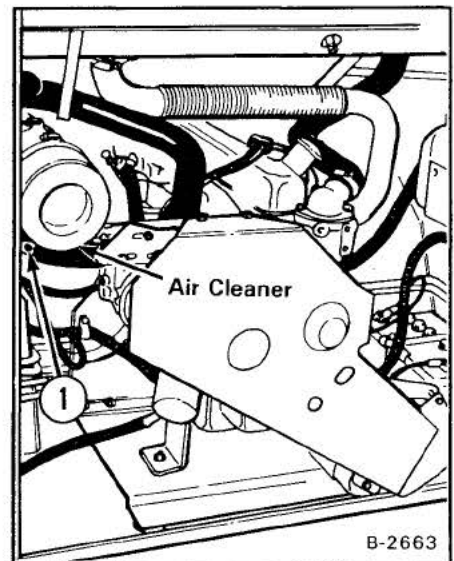

Fig. 43 Air Cleaner Location
1. Loosen the clamp on the dust cup (Fig. 43, Item 1). Remove the dust cup and the element.